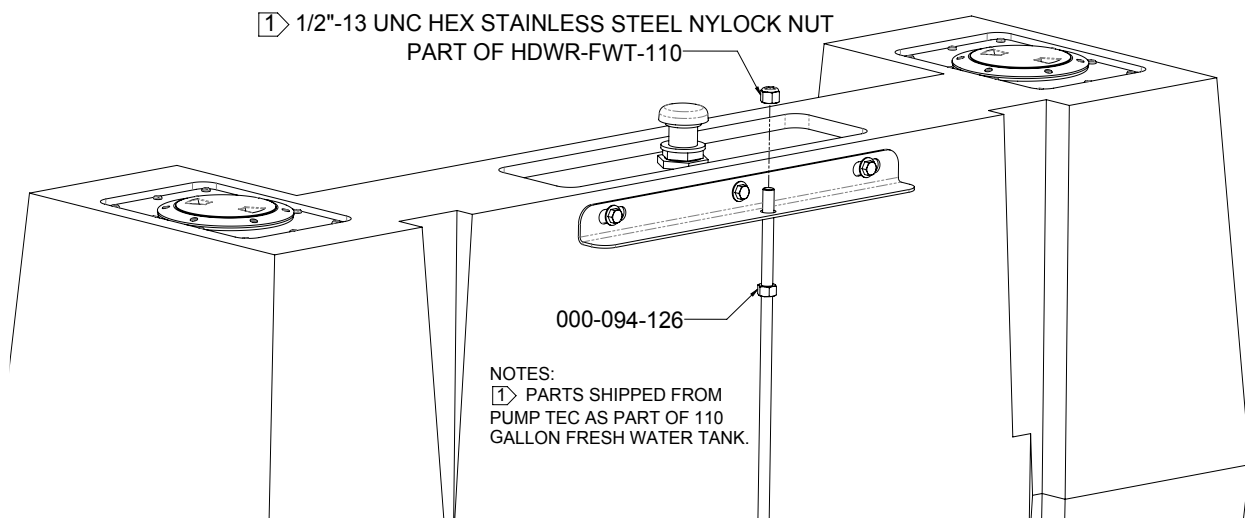

Figure 84. Attached the All Thread to the Upper Bracket.
9. Place the 1/2" Nut (PN: 000-094-126) between the Upper Bracket and Lower Support assembly on the All Thread Rod. Loosely fasten the 1/2"-13 UNC Hex Stainless Steel Nylock Nut (Part of the HDWR-FWT-110) on top of the upper bracket. (Figure 84)